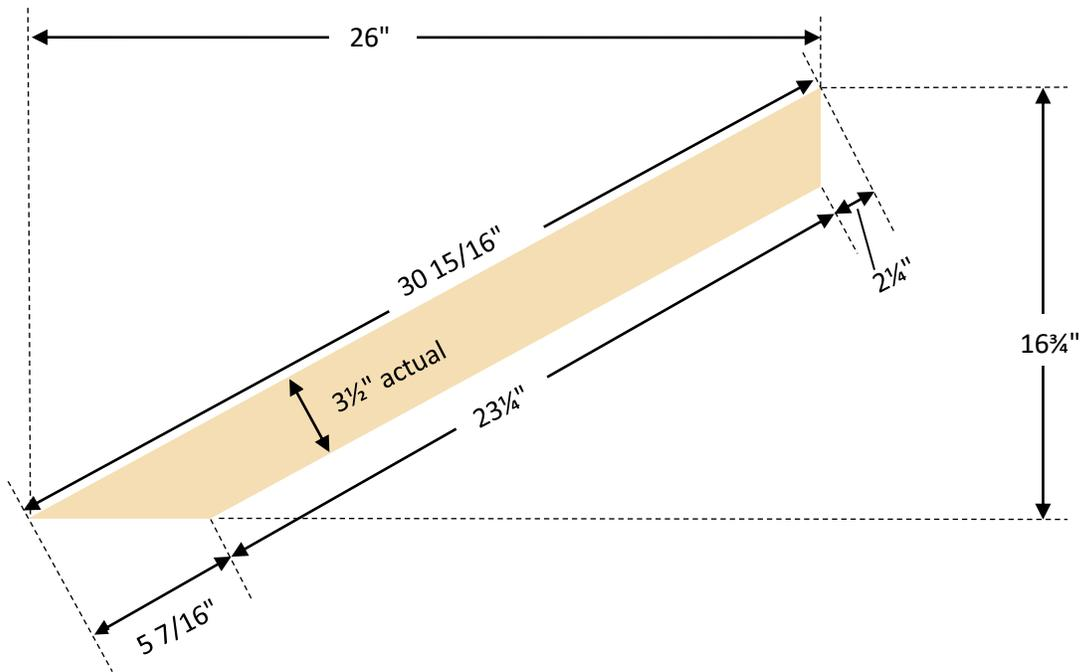

Figure 6
- Use the dimensions for the piece as shown in Figure 6, or calculate your own dimensions in accordance with the notes in Appendix – Cross Strut Calculations.
Replace the values in Figure 6 with what you calculate for the B sides. Draw a line and cut the angles.